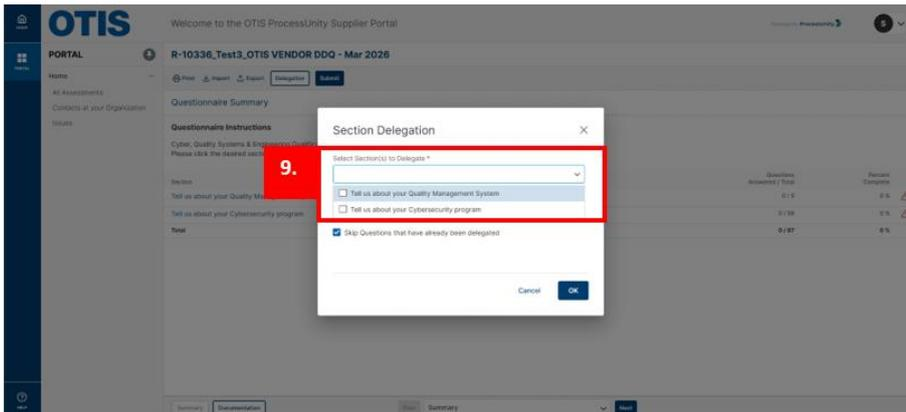

Figure 22
9. Once you click on the Select Section(s) to Delegate drop down, you will be able to select the sections you want to delegate. If you select both the options, the whole assessment will be delegated to the selected supplier contact. On the other hand, if you select only one section like QMS to delegate, only that section will be delegated to selected supplier contact. To delegate a particular section, just check the checkbox beside their name (Refer figure 22)